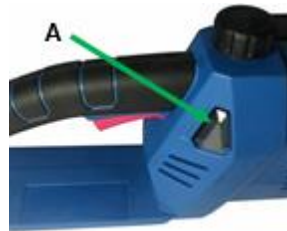

Fig. 7
Proper lubrication of the chain during cutting operations is essential to minimize friction with the guide bar. Your chainsaw is equipped with an automatic greasing system. The lubricator automatically delivers the correct amount of oil to the bar and chain. The oil tank level can be checked in the oil inspection window (A) on the right side of the saw (Fig. 7).